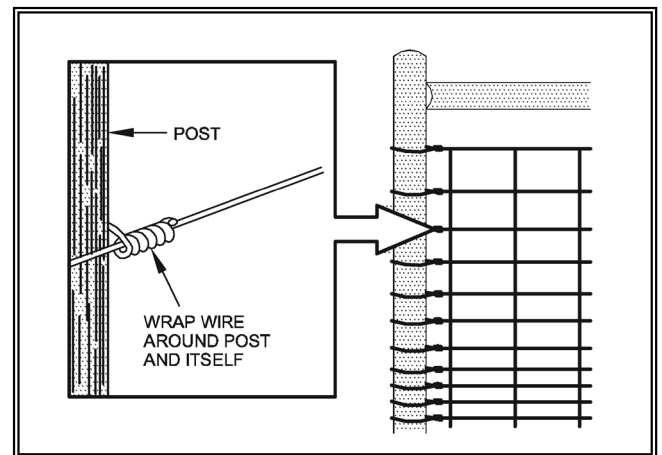

Figure 6 Tying Off Woven Wire
- When tying off woven wire at the end brace, take the free end of each line wire around the end post and wrap on itself, as shown in Figure 6 below. **DO NOT** depend only on staples to hold the fence wire tension.